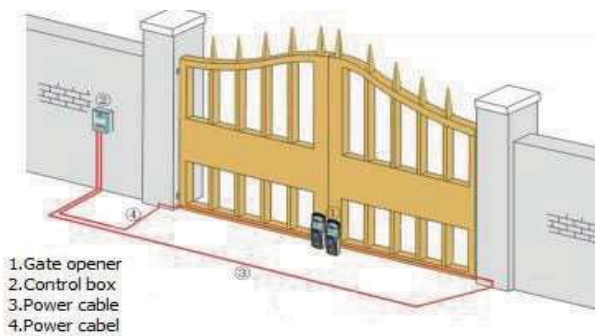

Fig. 2
2. Control and power distribution structure, as shown in Fig.2
5. Bury the wire pipes with reference to the wiring diagram of the power distribution system of the opener (Fig.2) and determine the diameter and number of cores of multi-strand flexible wires (power cables).